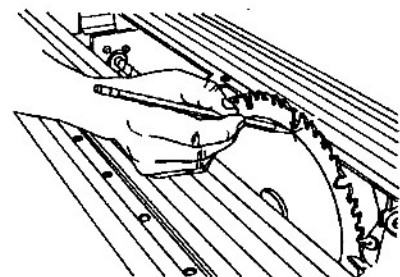

Fig. B-16
17. Use a pencil to mark the spot on the blade, as shown in Fig. B-16. This will be your reference point throughout the alignment.